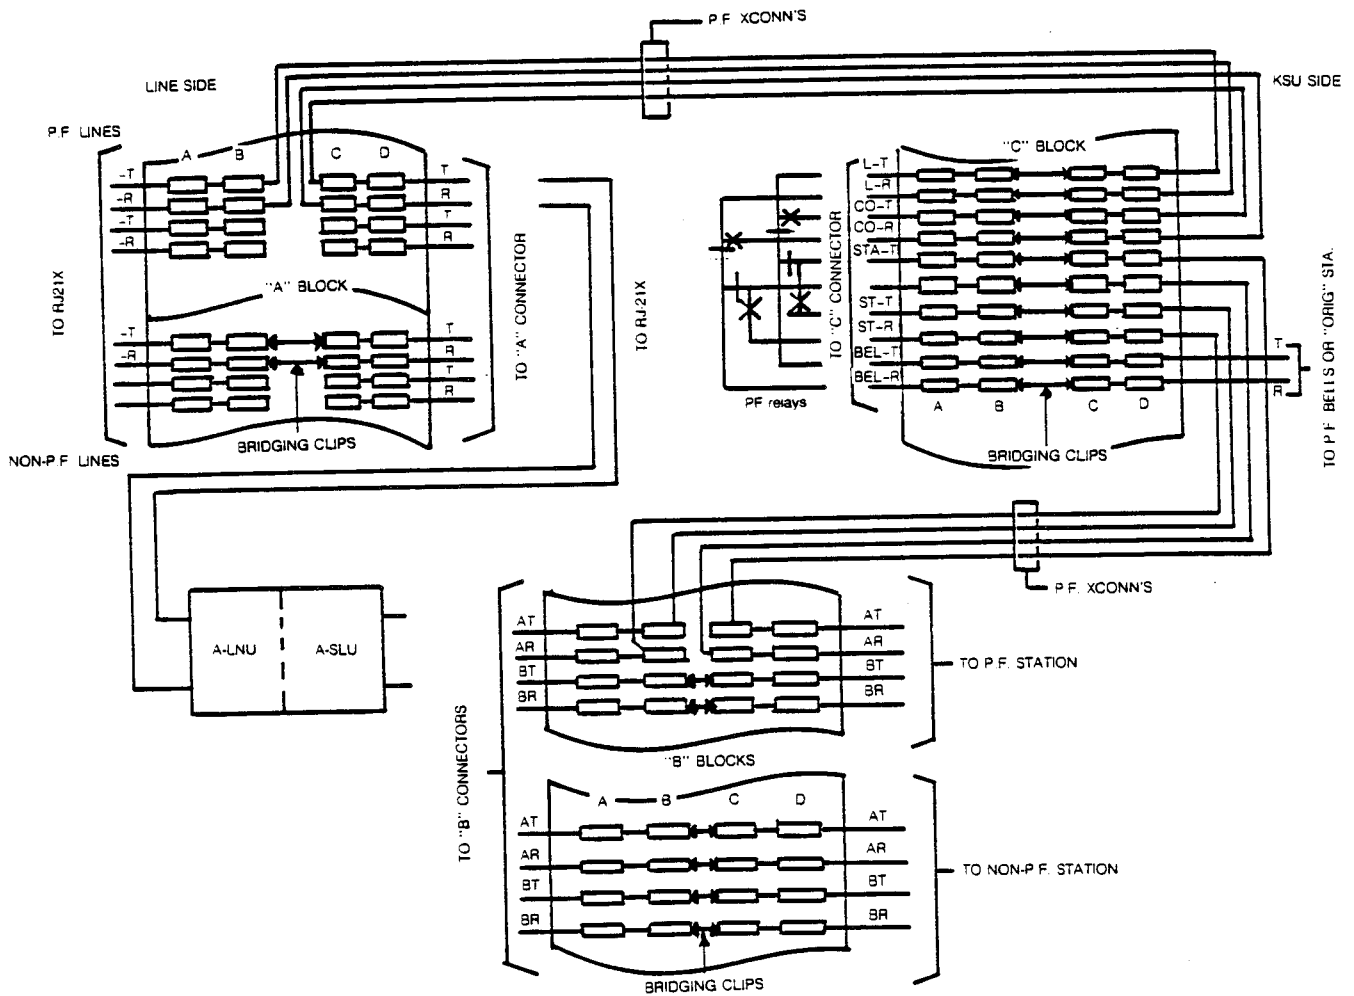

Figure 5-15 POWER FAILURE CONNECTIONS
6.12 Each CO line which is to appear at a power-failure station must be connected to an A-PFU-A circuit. These connection points are located on the "C1" block (Figure 5-15 and Table 5-2).
6.13 Cross-connect the Power fail CO lines of the "A" block to the L and CO clips of the "C" block. (Figure 5-15 and Table 5-2).
6.14 In systems equipped with an A-PFU-A PCB, lines which are NOT connected to power failure circuits must be strapped with bridging clips on the "A" block (Figure 5-15).
6.15 Cross-connect the ST and STA leads of the "C" block to the AT and AR clips of the "B" blocks (Figure 5-15 and Table 5-2).